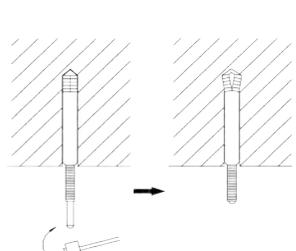

Fig.4.4
- (2). Insert the anchor bolts into the drilled holes, and drive the pins completely into the anchor bolts with a hammer (Fig.4.4).